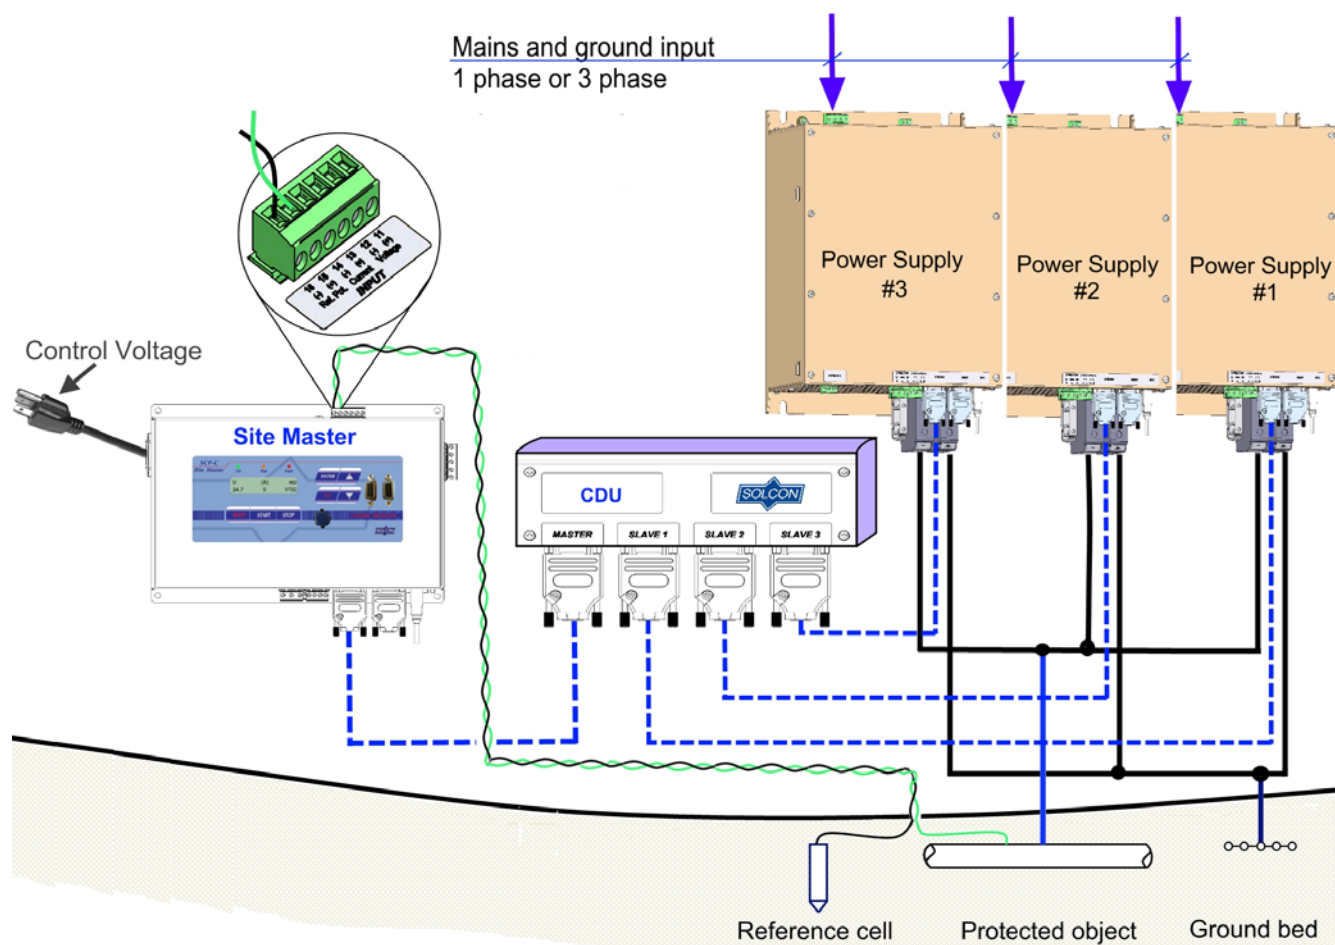

Figure 14 – SCP-C models consisting of multiple Power Supply units
- The Power Supply units shown in Figure 14 are modified SCP-C stand alone units.